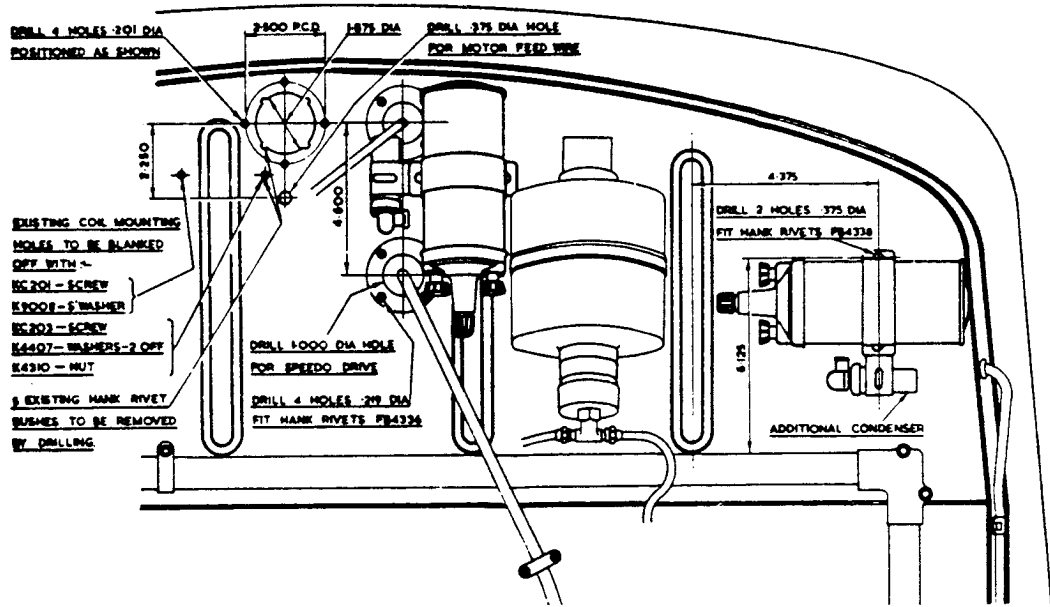

FIG. 4. INSTRUCTIONS FOR DRILLING DASH.
- 5) Remove the four setscrews retaining the metal speedometer grommet retaining ring on the engine side of the dash, disconnect the cable from the instrument and then withdraw the cable, rubber grommet and metal ring into the engine compartment. Drill out the existing Hank rivets round the original cable aperture, enlarge this to 1.875" dia., and then drill four equally spaced holes 0.201" dia. round the hole as shown in Fig. 4.
- 6) Refit the speedometer cable through the dash by marking off and drilling a hole 1.00" dia. at a point 4.600" directly below the centre of the left-hand aperture carrying the thermometer capillary tube as shown in Fig. 4.
- 7) On chassis where both ignition coils are mounted side by side on the dash above the engine, the right-hand coil should be removed and then refitted on the left-hand side below the Chassis Name Plate as shown in Fig. 4, using the two Hank rivets provided. Fit the additional radio suppressor below the coil as shown, and connect the wire to the INPUT (or lower) terminal. Drill out the original left-hand coil bracket Hank rivet bush, and then drill another hole in the position shown for the demister motor feed wire grommet.